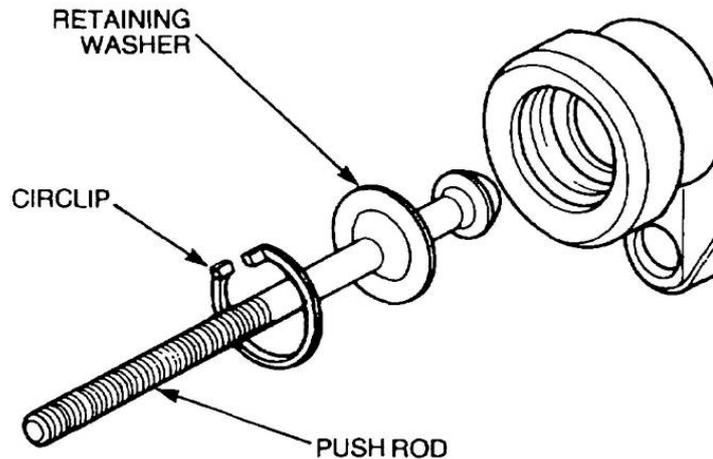

Figure 151 Removal of the Push Rod
- b. Remove the circlip (Figure 151), the push rod and the retaining washer. The circlip may be reused if it is considered serviceable.